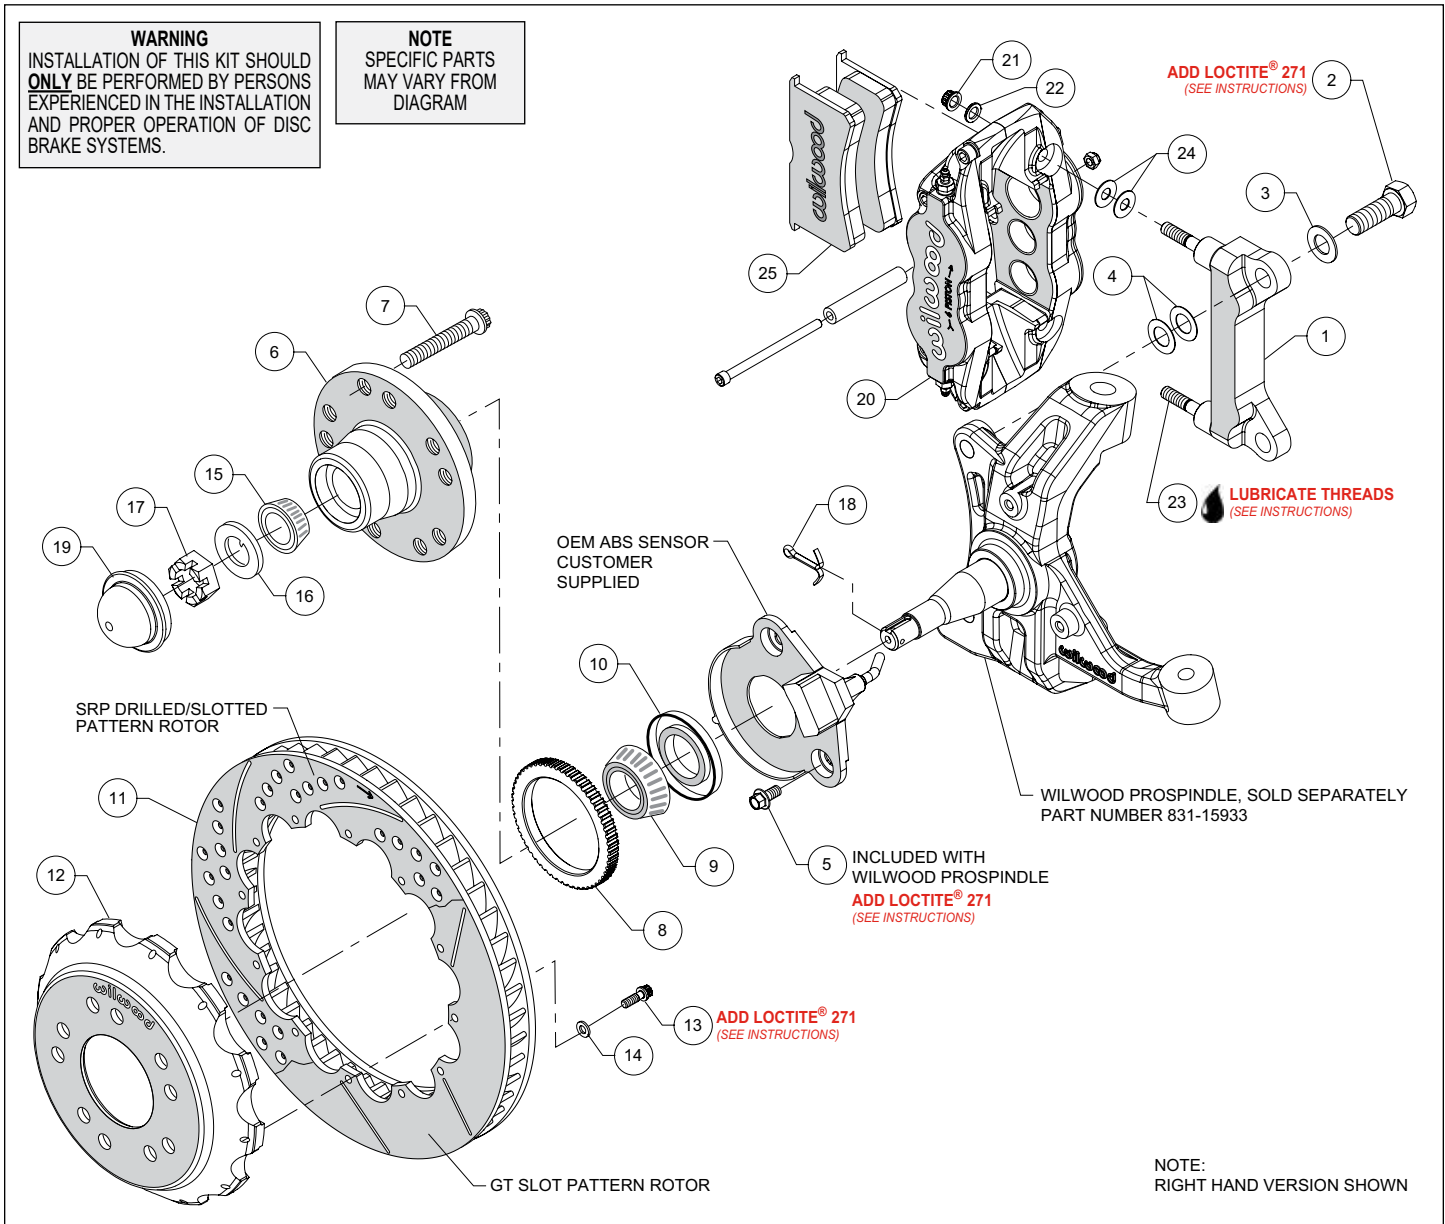
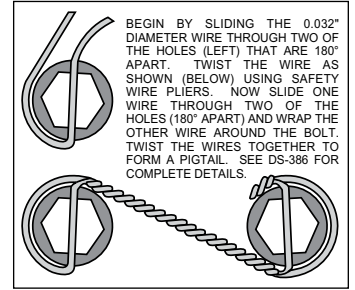

Figure 1. Typical Installation Configuration
Figure 3. Safety Wire Diagram
**NOTE:** Numbers in parenthesis refer to the parts list and Figure 1 on the preceding pages.
- For vehicles equipped with ABS, install the OEM ABS sensor (customer supplied) to the spindle using bolts (5) as shown in Figure 1 and Photo 3. Temporarily tighten the mounting bolts. **NOTE: The sensor must fit squarely against the mount bosses on the spindle.** Inspect for interference from casting irregularities, machining ridges, burrs, etc. Remove the bolts one at a time and apply red *Loctite*® 271 to the threads, and torque to 20 ft-lb.
- The caliper mount bracket (1) should initially be installed with clean, dry threads on the mounting bolts. Orient the bracket, as shown in Figure 1 and Photo 4, and install using bolts (2) and washers (3). Initially place two .024" thick shims (4) on each bolt between the bracket and spindle, Figure 1. Temporarily tighten the mounting bolts. **NOTE: The bracket must fit squarely against the mount bosses on the spindle.** Inspect for interference from casting irregularities, machining ridges, burrs, etc. Later, after the caliper alignment has been checked, the mount bolts will be secured using red *Loctite*® 271.
- Install wheel studs (7) into the hub (6), Photo 5. Torque to 77 ft-lb. **NOTE: There are two five lug patterns in the hub (5 x 4.75 and 5 x 5.00).** Ensure the correct hub stud pattern is being used to fit the wheel application.
- For vehicles equipped with ABS, carefully press the ABS ring (8) onto the backside of the hub (6) as shown in Figure 1 and Photo 6.
- Pack the large inner bearing cone (9) with high temperature disc brake bearing grease (available from your local auto parts store) and install into the backside of the hub (6), Photo 7.
- Install the grease seal (10) by pressing into the backside of the hub (6), flush with the end of the hub, Photo 7.
- Press the dust cap (19) into the hub (6). **NOTE: Do not hammer center of cap. Install using outer flange only.**
- Orient the rotor (11) and the hat (12) as shown in Figure 1 and Photo 9. Attach rotor to hat using bolts (13) and washers (14). Using an alternating sequence, apply red *Loctite*® 271 to the threads, and torque to 155 **in-lbs**. For an added measure of security, the bolts may be safety wired using standard 0.032 inch diameter stainless steel safety wire as shown in Figure 3. Refer to Wilwood's data sheet DS-386 (available at [www.wilwood.com/Pdf/DataSheets/ds386.pdf](http://www.wilwood.com/Pdf/DataSheets/ds386.pdf)) for complete safety wire installation instructions.
- Slide the hat/rotor (12 and 11) onto the hub (6), Photo 10. **NOTE: The hat must fit flush against the hub face or excessive rotor run out may result.** Install three lug nuts (finger tight) to keep the hat/rotor in place while continuing with the installation.
- NOTE: This kit contains distinct right and left hand calipers that must be mounted in a specific direction, as described below.** Lubricate the caliper mounting studs (23) with lightweight oil. Initially place two .035" thick shims (24) on each stud between the caliper and the bracket, as shown in Figure 1 and Photo 11. Mount the caliper (20) onto the bracket (1) using lock nuts (21) and washers (22), Figure 1. Temporarily tighten the lock nuts. Ensure that the caliper is mounted so that the largest pistons are at the rotor exit end of the caliper, in relation to the direction of rotor rotation. View the rotor through the top opening of the caliper. The rotor should be centered in the caliper, Photo 12. If not, adjust by adding or subtracting shims (4) between the bracket and the spindle. Always use the same amount of shims on each of the two mounting bolts. Once the caliper alignment is correct, remove the bracket mounting bolts one at a time, apply red *Loctite*® 271 to the threads, and torque to 140 ft-lb.